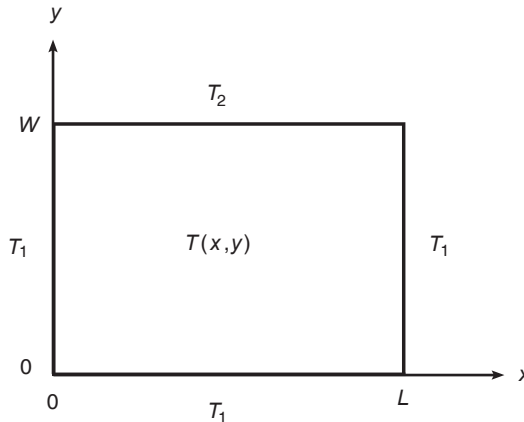

Figure P35
35. The following equation describes the temperature distribution in a rectangular metal plate. The temperature on three sides is held constant at  $T_1$ , and at  $T_2$  on the fourth side (see Figure P35). The temperature  $T(x, y)$  as a function of the  $xy$  coordinates shown is given by